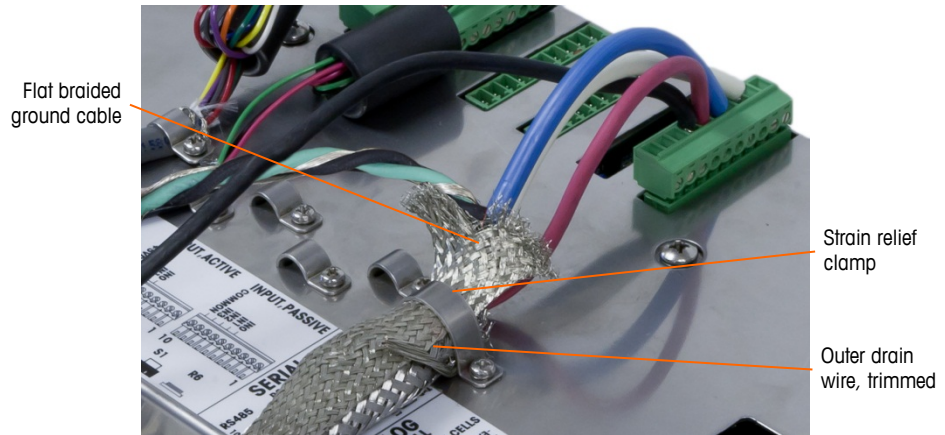

Figure A-51: PDX Home Run Outer Braid Termination, Panel
- b. Slide forward the outer braid to cover over the inner braid and foil. Pull the outer drain wire back over the outer braid and trim it to approximately 25 mm (1 inch). Place the flat braided ground cable around the home run cable and the drain wire before finally securing everything to the back cover of the IND780 Q.iMPACT using the large strain relief cable clamp provided with the unit (Figure A-51). The other end of the flat braided cable is terminated at the ground rod.